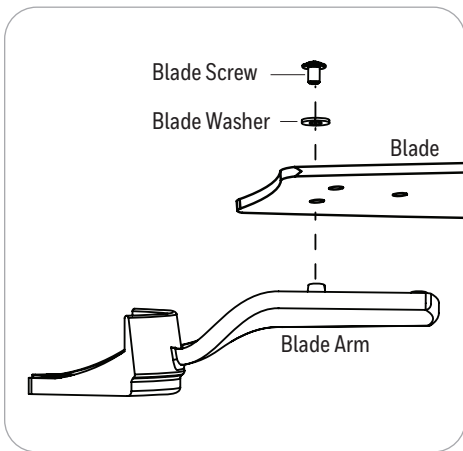

Figure 5.4
4. Partially insert the blade screws along with blade washer through blade and into the blade arm. Tighten each blade screw starting with the one in the middle (Figure 5.4). Repeat this step for the remaining blades and blade arms (Figure 5.4).